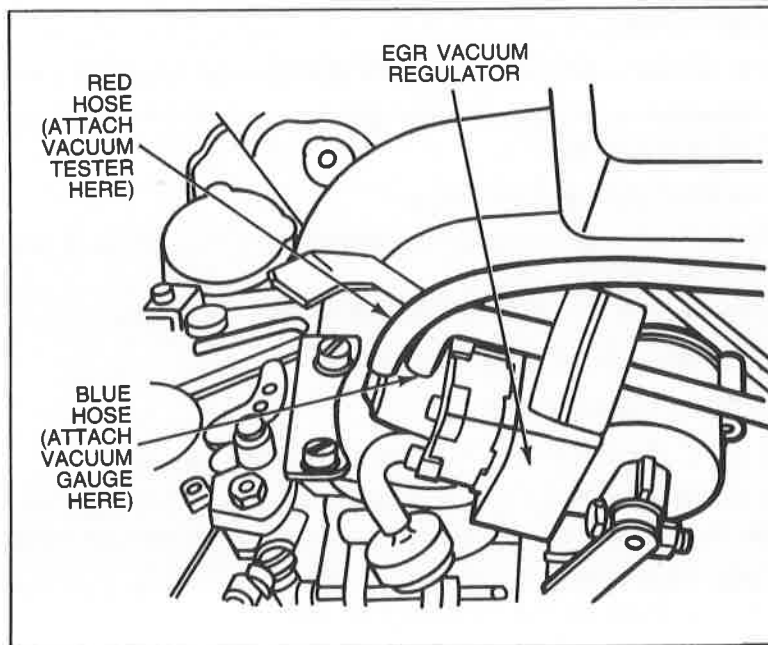

Figure 23 EGR Vacuum Regulator Hose Installation
2. Disconnect vacuum hose (red) from vacuum pump at vacuum regulator port (Fig. 23). Connect Vacuum Tester, Rotunda 021-00014 or equivalent, to port.
3. Remove vacuum hose (blue) from vacuum regulator to EGR valve (Fig. 23). Connect Vacuum Gauge, Rotunda 059-00008 or equivalent, to port.